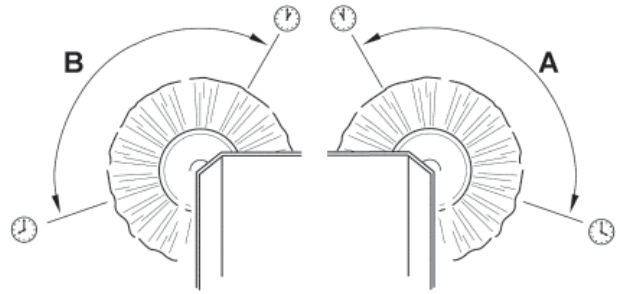
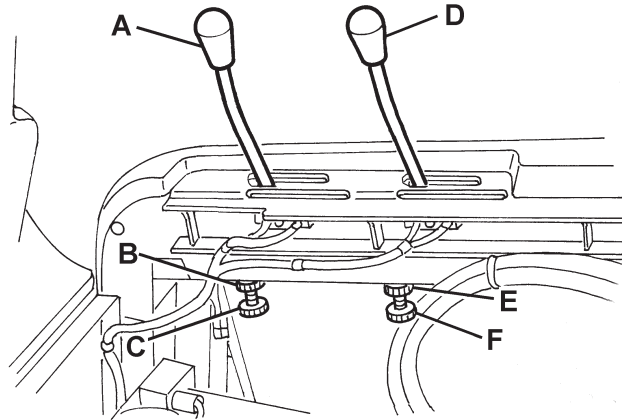

Figure 9
Figure 10
- Check that the side broom prints are as shown in the figure (A and B, Fig. 9).
2. Engage the parking brake with the pedal (75) and the lever (68).
3. Turn the ignition key (69) to "0".
4. Open the hood (22) and fasten it with the support rod (36).
5. **For the right side broom**, operate on the idle gear of the lever (A, Fig. 10), by loosening the ring nut (B) and by adjusting the adjuster (C) until the correct print (A, Fig. 9) is achieved. Then fasten the adjuster with the ring nut (B, Fig. 10).
For the left side broom, operate on the idle gear of the lever (D, Fig. 10), by loosening the ring nut (E) and by adjusting the adjuster (F) until the correct print (B, Fig. 9) is achieved. Then fasten the adjuster with the ring nut (E, Fig. 10).